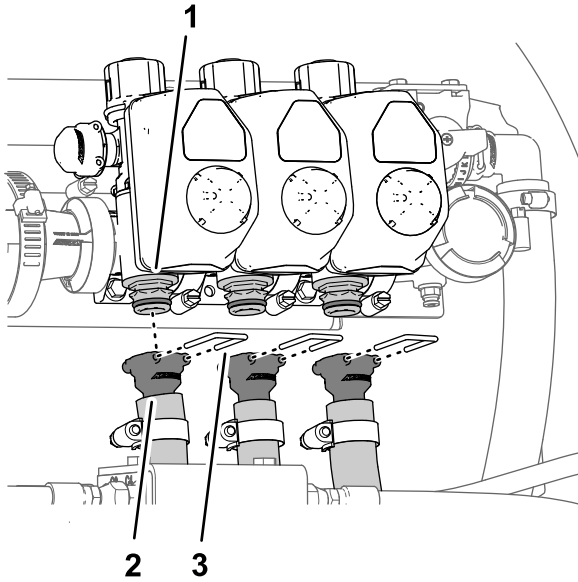

**Figure 38**
- Under the center-boom section, remove the hose clamp that secures the supply hose for the boom section to the barbed T-fitting (Figure 38).